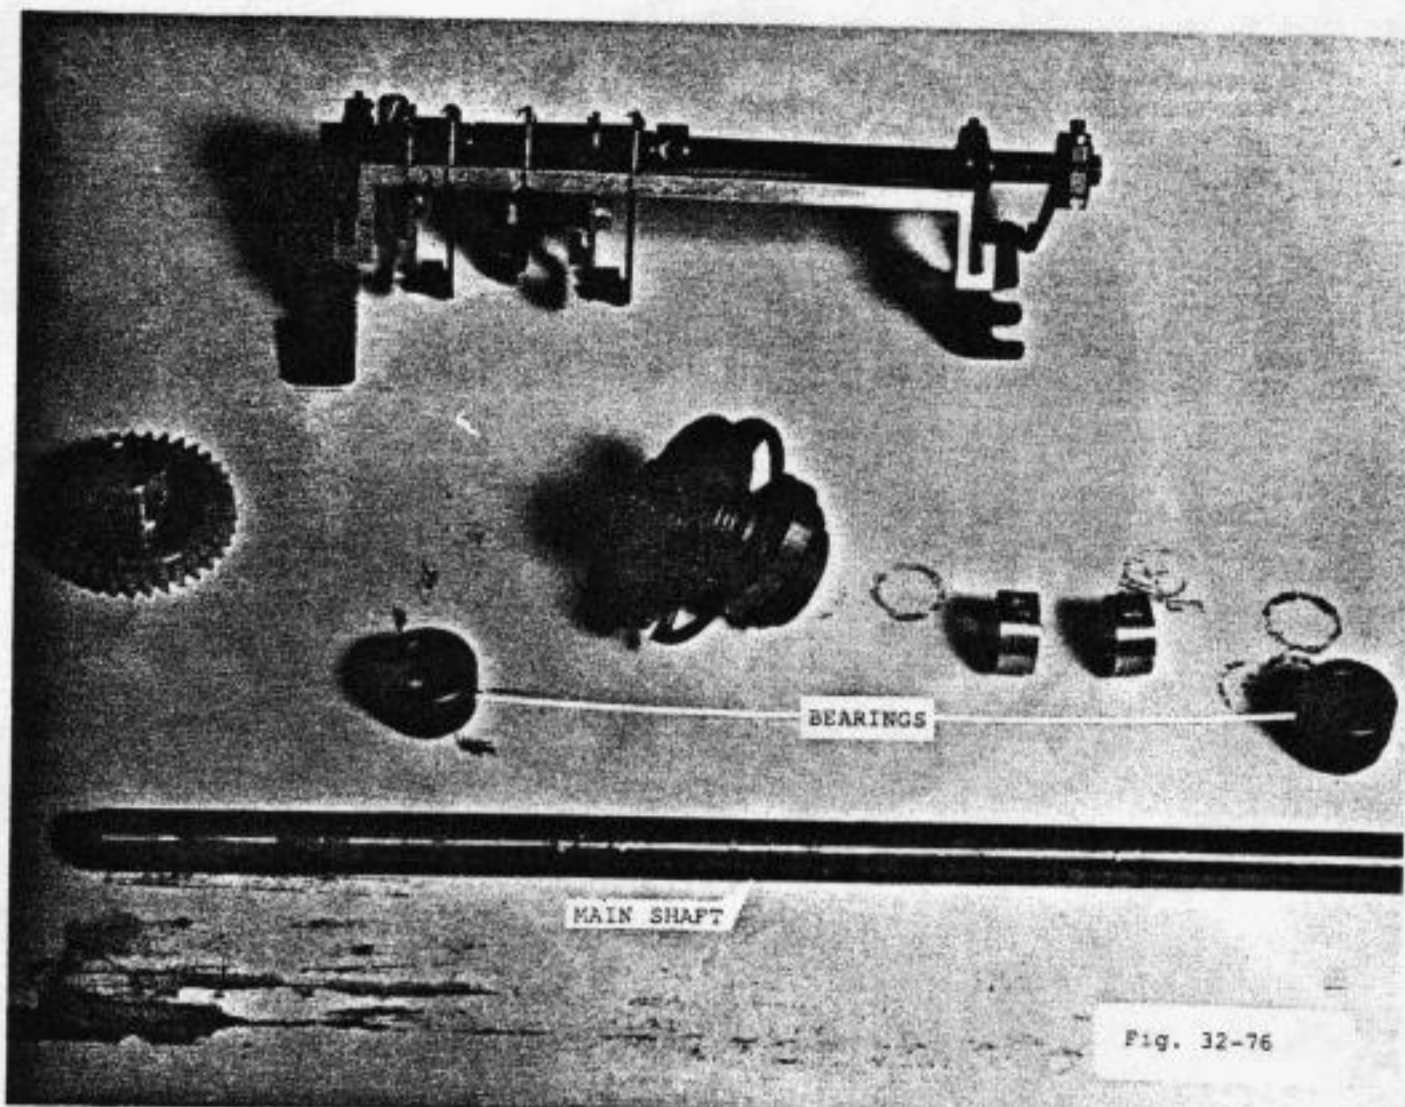

Fig. 32-76
6. Mainshaft parts are laid out in Fig. 32-76. Most likely replacement parts are the main shaft and the bearings.